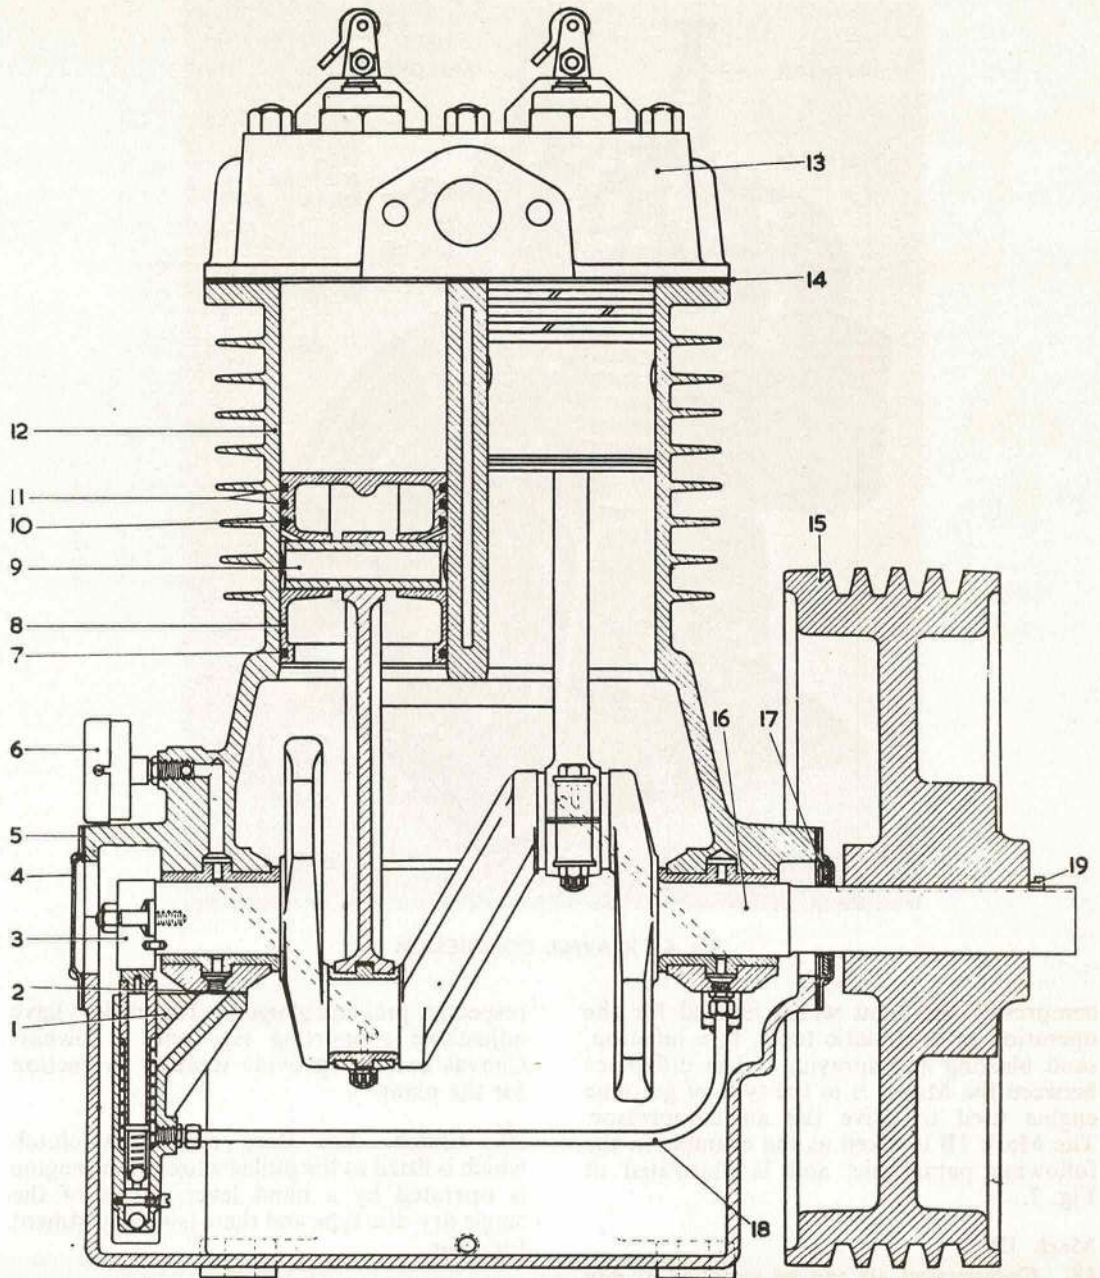

Fig. 5. SECTIONED TYPE N4 COMPRESSOR
11. The main parts of the compressor (Fig. 5) are a cylinder head assembly, a cylinder block, a crankshaft assembly, a pair of pistons and connecting rods, and an oil pump. The cylinder head and the barrels of the block are externally finned for cooling purposes. The spring-loaded valves, of which